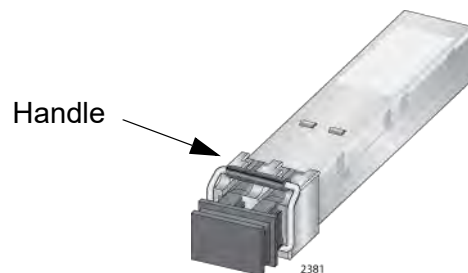

Figure 113. Handle on an SFP+ Transceiver
2. If you are installing the SFP+ transceiver in slot 1 or 3, orient it with the handle on top, as shown in Figure 113. To install it in slot 2 or 4, orient it with the handle on the bottom.